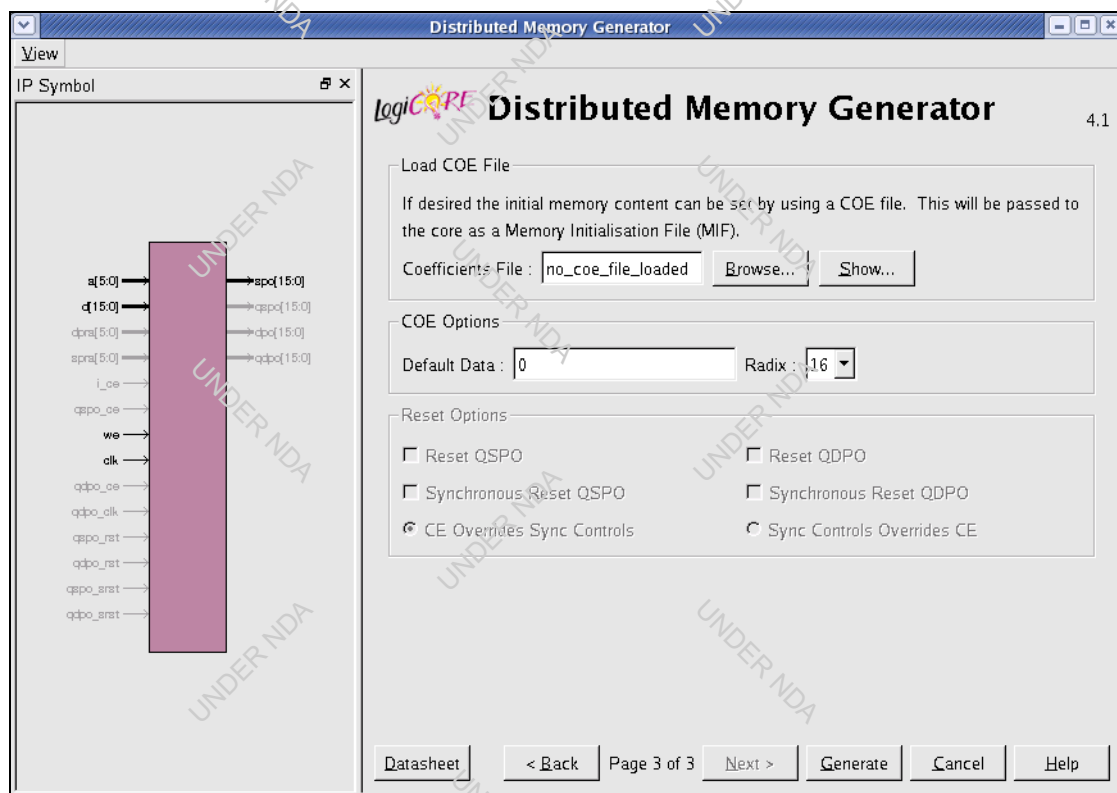

Figure 11: Initial Content and Reset Options Screen
- Initial Content and Reset Options Screen (Figure 11)